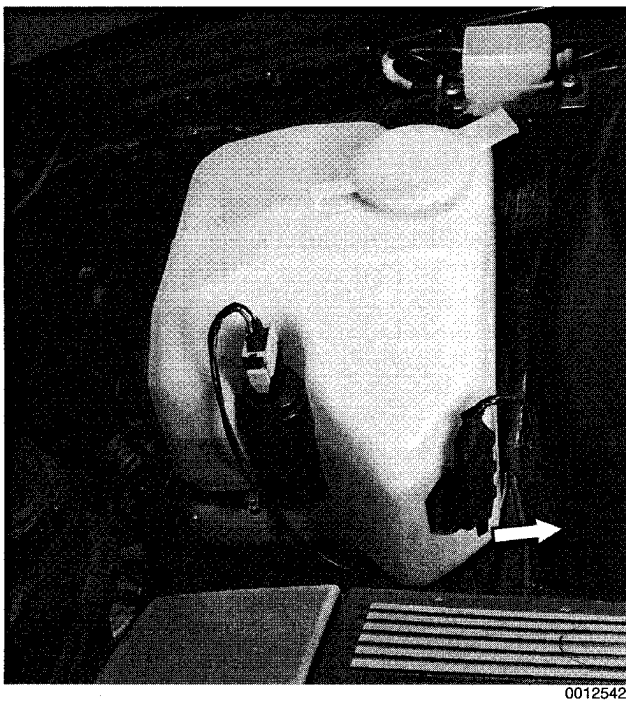

Fig. 23. Release electrical connector by pulling up on lever (**arrow**).
2. Lift harness connector retaining lever and unplug harness connector to washer fluid level sensor. See Fig. 23.